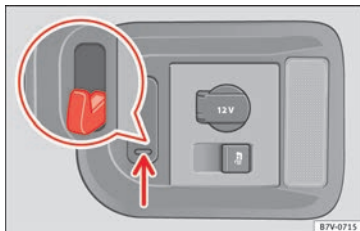

Fig. 171 In the luggage compartment: retaining hooks
On the right-hand side of the luggage compartment, there are folding retaining hooks **» Fig. 171** that can be used to secure light shopping bags.
- Press the retaining hooks down **» Fig. 171** (arrow) and fold them.